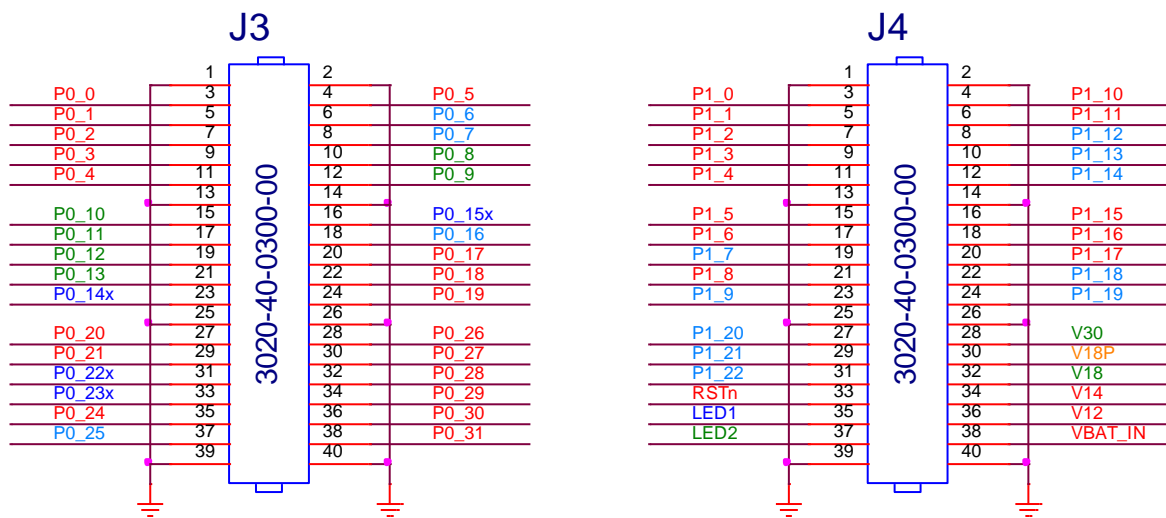

Figure 2: DA1469x DK PRO Mainboard Breakout Headers
- Breakout Headers (Figure 2, two pieces, 2 × 20 pins in each piece) for monitoring GPIO and power signals, with markings of signal names on the PCB top silkscreen